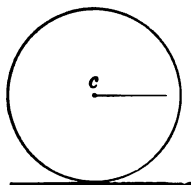

FIG. 71
3. *Neutral Equilibrium.* When a body in moving tends *neither to raise nor lower* its center of gravity, it is in neutral equilibrium. For example, a sphere rolling on a horizontal plane (Fig. 71). Such a body will remain supported upon any point of its surface.